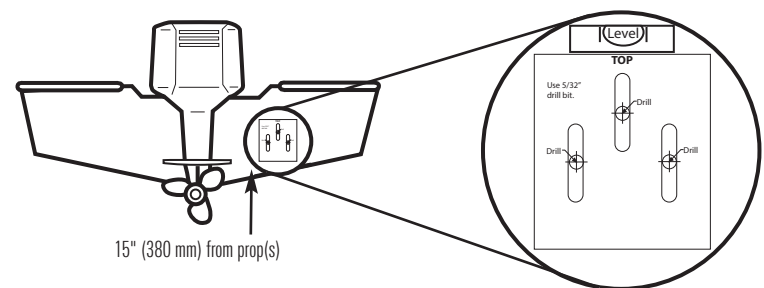

Figure 5
- **On outboard or inboard/outboard boats,** it may be best to install the transducer at least 15" (38 cm) to the side of the propeller(s) (Figure 5).